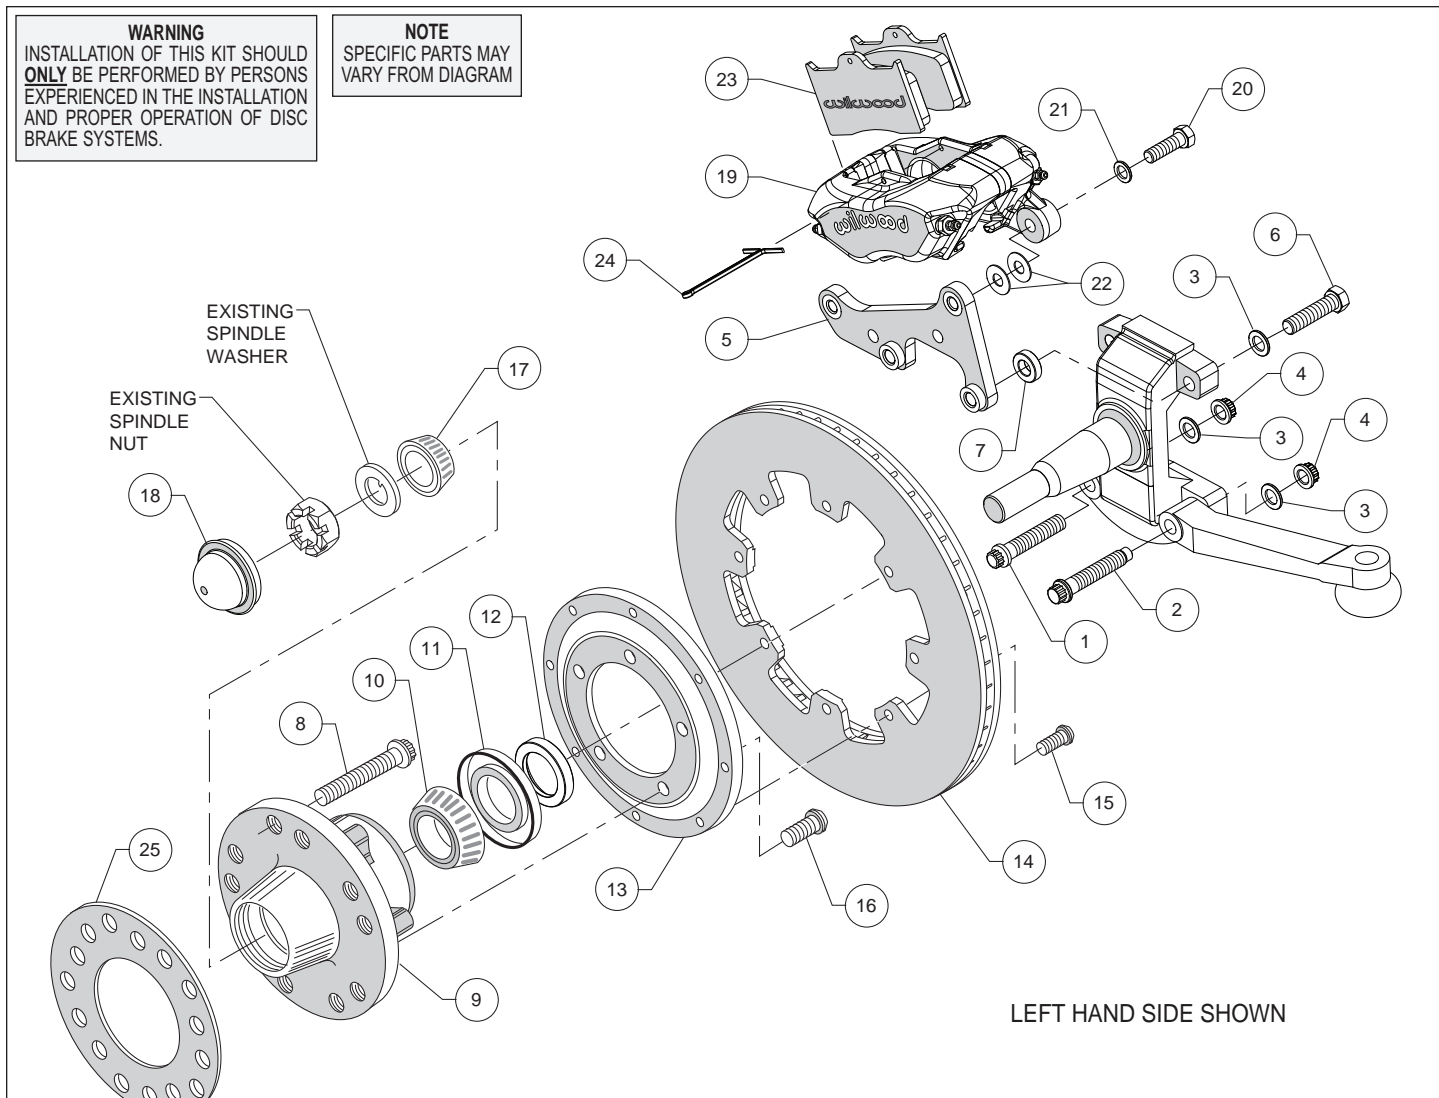
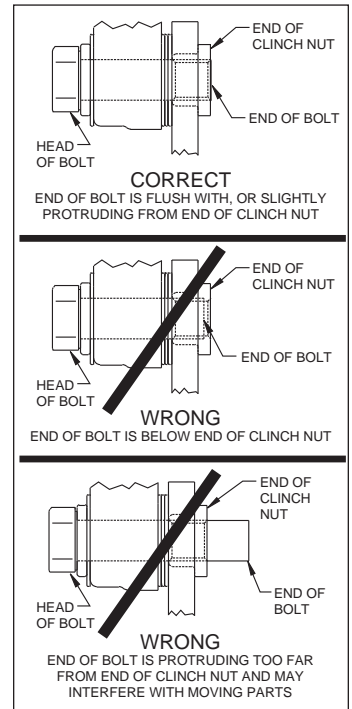

Figure 1. Typical Installation Configuration
Figure 3. Clinch Nut Engagement Diagram
**Assembly Instructions** (numbers in parenthesis refer to the parts list and Figure 1 on the preceding pages): **CAUTION:** All mounting bolts must fully engage clinch nuts. Be sure to check that all bolts are either flush or protruding through flanged side of clinch nut after shimming, Figure 3.
- One at a time, remove the two lower OEM bolts that secure the steering arm from the back side of the spindle. Replace with bolt (1), in the forward most hole, and bolt (2) in the rear hole, Photo 1. **NOTE:** The longer bolt with the end of the threads turned down is the steering stop. The new bolts are installed in the opposite direction as the original bolts, from the outside, Photo 2. Secure bolts using washer (3) and nut (4) as shown in Figure 1. Torque nuts to 47 ft-lb.
- Orient the caliper mount bracket (5) as shown in Figure 1 and Photo 2, and install using bolts (6) and washers (3). Place spacers (7) between spindle and bracket. Ensure that the flanged heads of the clinch nuts in the bracket are facing outboard, Photo 2. Temporarily tighten the mounting bolts. **NOTE:** The bracket must fit squarely against the mount bosses on the upright. Inspect for interference from casting irregularities, machining ridges, burrs, etc. Remove bolts one at a time, apply red *Loctite*® 271 to the threads and torque to 60 ft-lb.
- Install wheel studs (8) into the hub (9), Photo 3. Torque to 77 ft-lb. **NOTE:** There are two five lug patterns in the hub (5 x 4.75 and 5 x 5.00). Ensure the correct hub stud pattern is being used to fit the wheel application.
- Pack the large inner bearing cone (10) with high temperature disc brake bearing grease (available from your local auto parts store) and install into the backside of the hub (9), Photo 4.
- Install the grease seal (11) by pressing into the backside of the hub (9), flush with the end of the hub, Photo 4.
- Orient the rotor (14) and the rotor adapter (13) as shown in Figure 1 and Photo 5. Attach the rotor to the adapter using bolts (15). Using an alternating sequence, apply red *Loctite*® 271 to the threads, and torque to 25 ft-lb.
- Mount the adapter/rotor assembly (13/14) to the hub (9) using bolts (16), as shown in Figure 1 and Photo 6. Using an alternating sequence, apply red *Loctite*® 271 to the threads, and torque to 45 ft-lb.
- Press the dust cap (18) into the hub (9), Photo 9.
- NOTE:** Please reference the caution statement at the beginning of the assembly instructions. Mount the caliper (19) onto the caliper mounting bracket (5) using bolts (20) and washers (21), as shown in Figure 1. Initially place two .035" thick shims (22) on each bolt between the caliper and the bracket, Photo 10. Temporarily tighten the mounting bolts and view the rotor (14) through the top opening of the caliper. The rotor should be centered in the caliper, Photo 11. If not, adjust by adding or subtracting shims between the bracket and the caliper. Always use the same amount of shims on each of the two mounting bolts. **NOTE:** The end of each bolt must be flush with or slightly protruding from the head of the clinch nut, as shown in Figure 3. If necessary place spare shims between washer (21) and caliper mounting ear to achieve the proper clinch nut engagement. Once the caliper alignment and clinch nut engagement are correct, remove the bolts one at a time, apply red *Loctite*® 271 to bolt threads, and torque to 40 ft-lb.
- Install the disc brake pads (23) into the caliper, with the friction material facing the rotor (14), and secure in place using cotter pin (24), Photo 12.
- Install wheel spacer (25) as shown in Figure 1 and Photo 13. Temporarily install wheel and torque lug nuts to manufacturer's specification. Ensure that the wheel rotates freely without any interference. **NOTE:** Wheel spacer (25) MUST be used if any wheel contact surfaces overhang the outside diameter of the hub face. See warning on page 3.